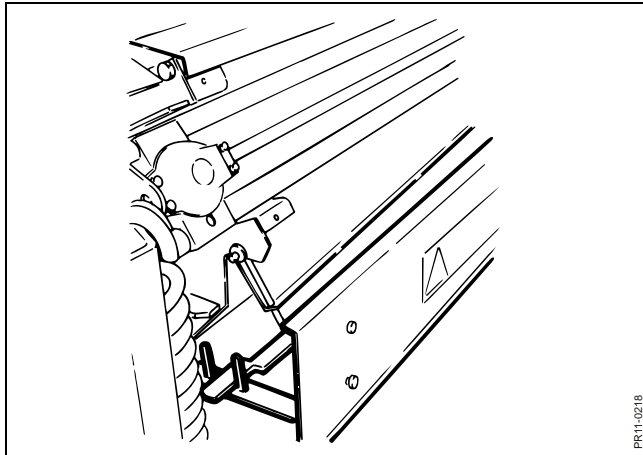

Fig. 4-12
- Fig. 4-12** 2. Lower the guard between the grinding device and the rotor so that there is free space between the device and the rotor.